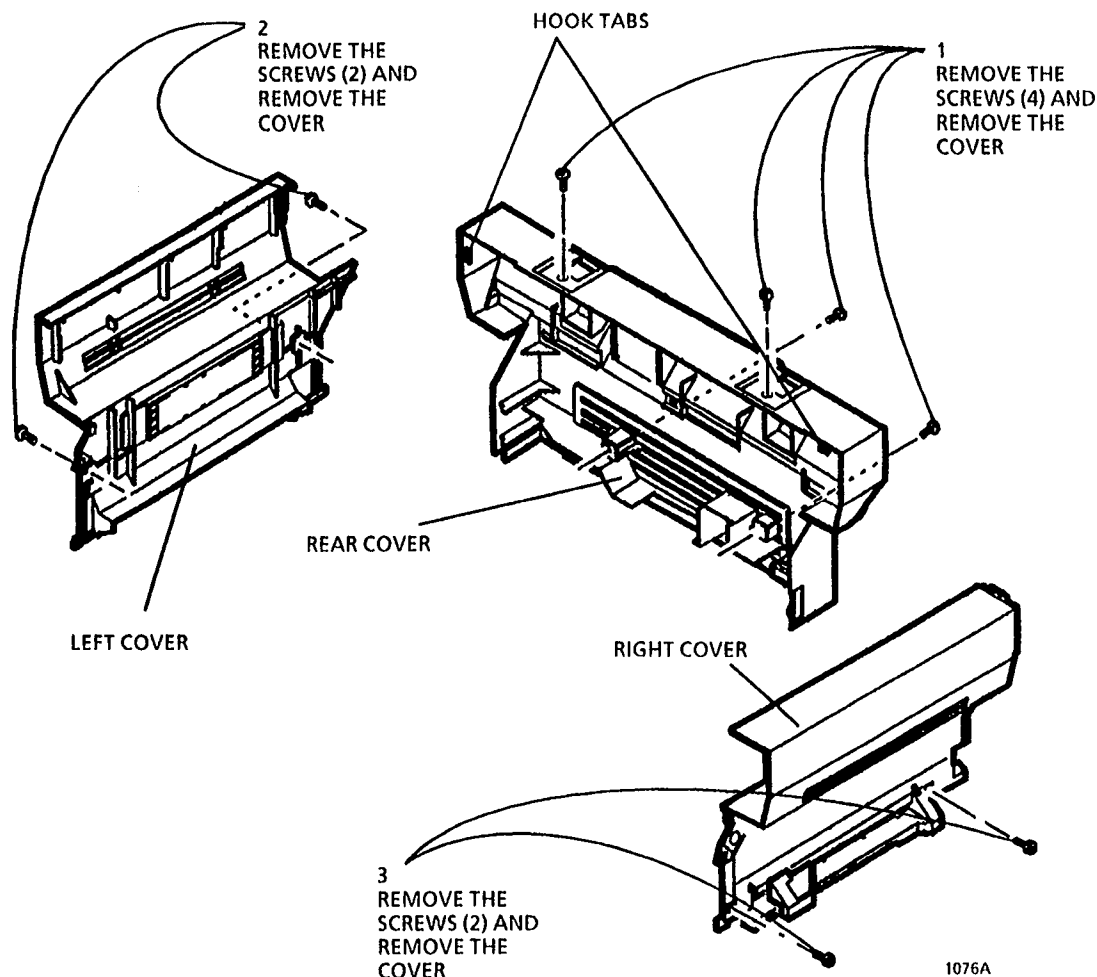

Figure 2. Removing the Rear, Left, and Right Covers
1. (Figure 2): Remove the Left Cover.
1. (Figure 2): Remove the Right Cover.